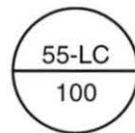

Figure 74. Instrument Tag
1. Identify the loop and area the device is in using the instrument tag in figure 74.